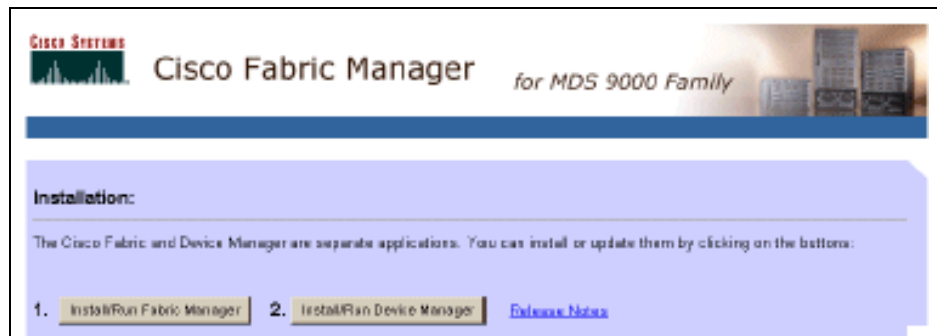

Figure 7-15 Cisco MDS 9000 family - Supervisor Web page
- ▶ Enter the IP address or host name of the supervisor module in the address or location field of your browser. The supervisor module HTTP server displays the window, as shown in Figure 7-15.